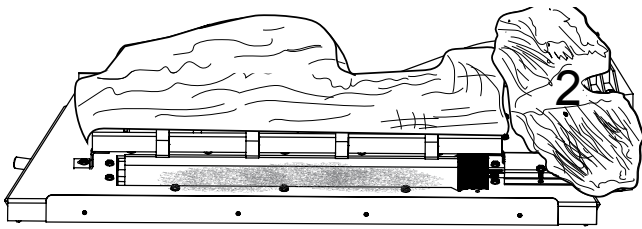

Figure 5.12 - Log #2 Placement
3. Hold log #2 with the flat surface to the right. Place log #2 to the right side of the burner assembly by positioning the pin locator hole on the bottom of the log over the pin on the right-hand side. See Figure 5.12.